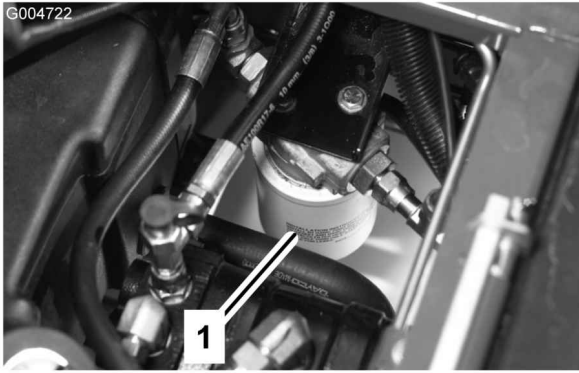

Figure 70
2. Clean the area around the filter mounting area. Place a drain pan under the filter and remove the filter (Figure 70).